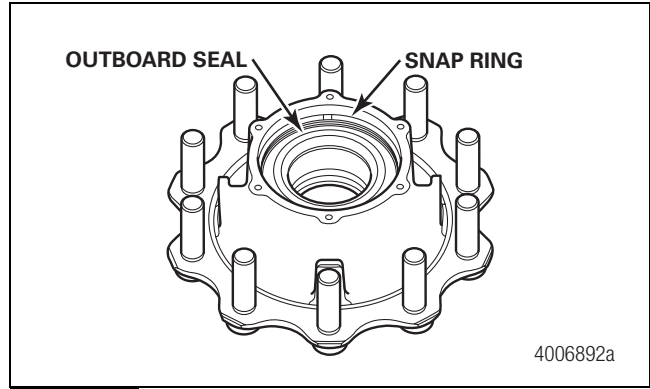

Figure 4.5
- The hub is a one-piece assembly containing non-serviceable bearings, primary seals and lubricant. Primary seals are located on the inboard and outboard sides of the hub. Figure 4.5 and Figure 4.6.
- The non-serviceable bearing cartridge is held in place by a heavy-duty snap ring visible from the outboard side of the hub. Figure 4.5.